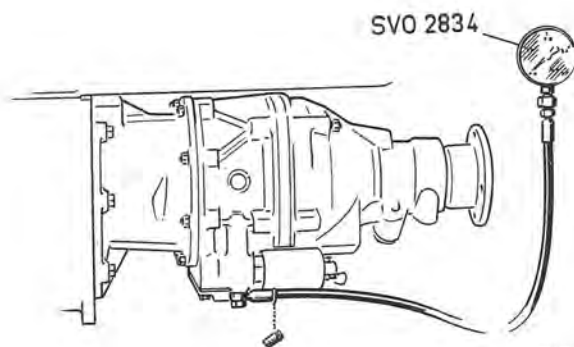

Fig. 4-44. Checking oil pressure
1. Remove the plug under the operation valve and connect the pressure gauge 2834, see Fig. 4-44.